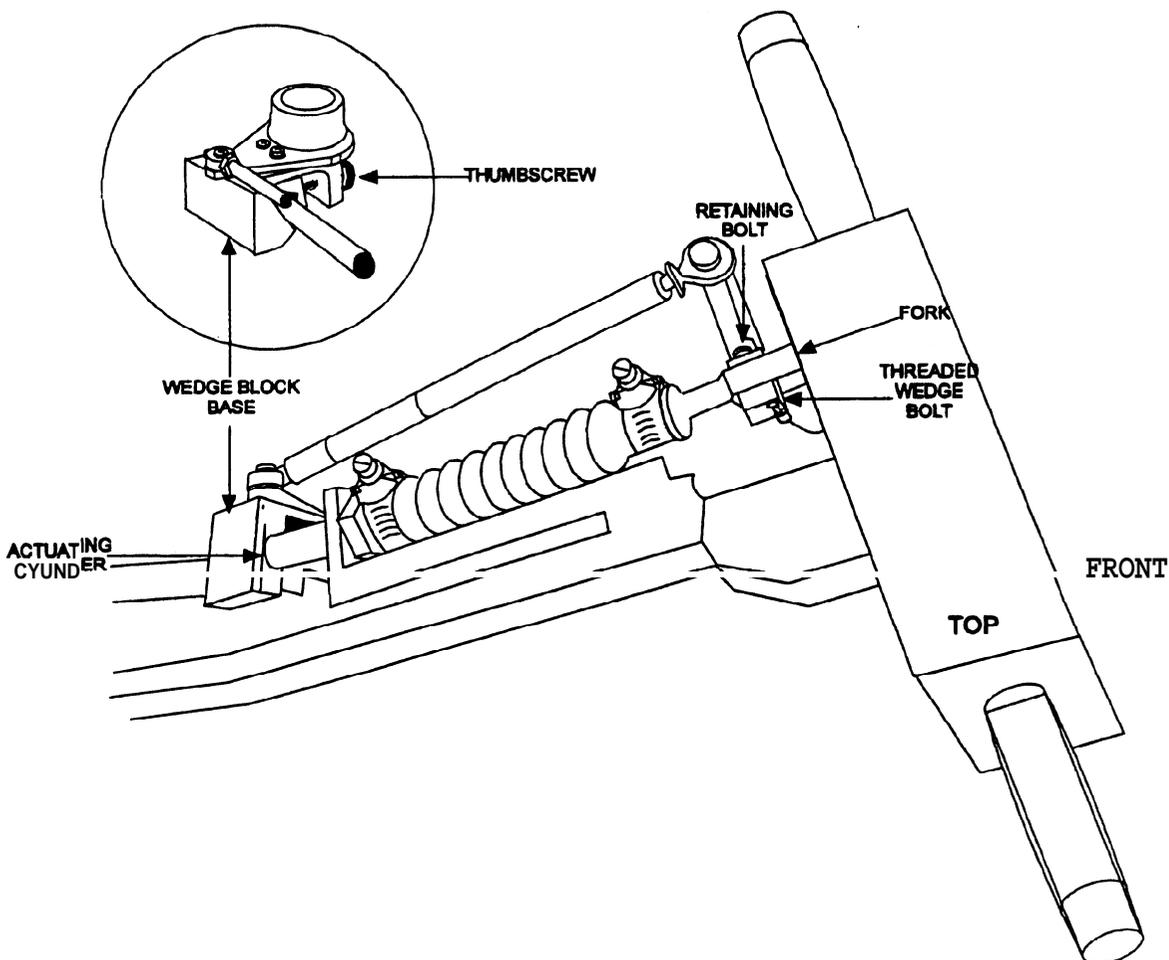

Figure 2-55. Installed Steering Sensor Assembly
- d. Approximately 6 inches forward of the Steer-Throttle Control, locate a bracket with a cylinder. This is the actuating cylinder. (Refer to Figure 2-55.)